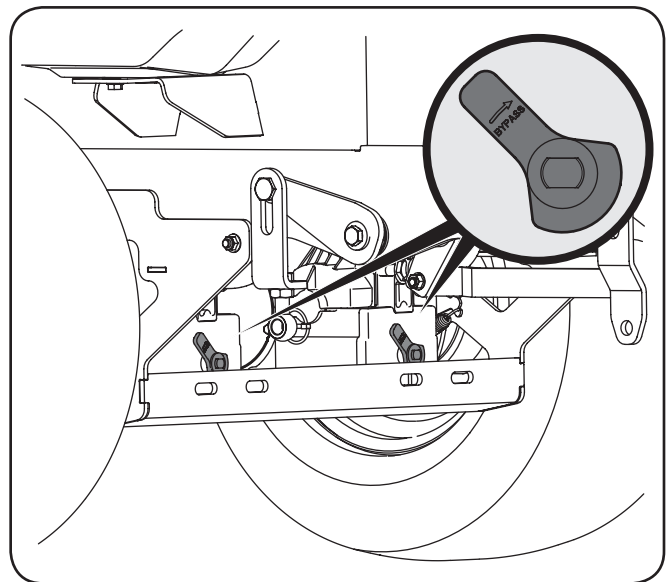

Figure 3-2
4. Engage the transmission bypass valves on each side of the tractor by moving both levers to the left. The transmission bypass valves (one for each the RH and LH transmission) are located under the tractor on the front of each transmission inside the rear wheels. See Fig. 3-2.
2. Insert the carriage bolts (one per side) in the frame brackets and ROPS posts from the front toward the rear. See Fig. 3-2. Alternately from the rear toward the front if access is restricted.